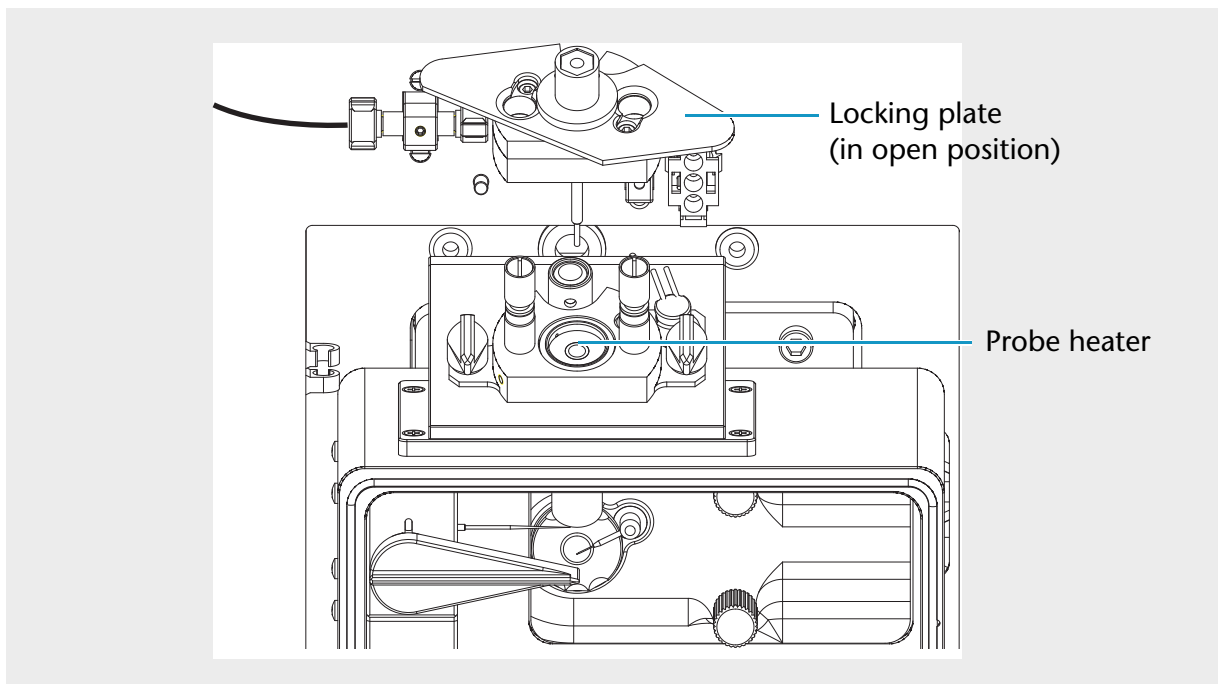

Fig. 47 Remove the APCI probe from the probe heater
5. Turn the locking plate clockwise to the open position and remove the APCI probe from the probe heater. See Figure 47.